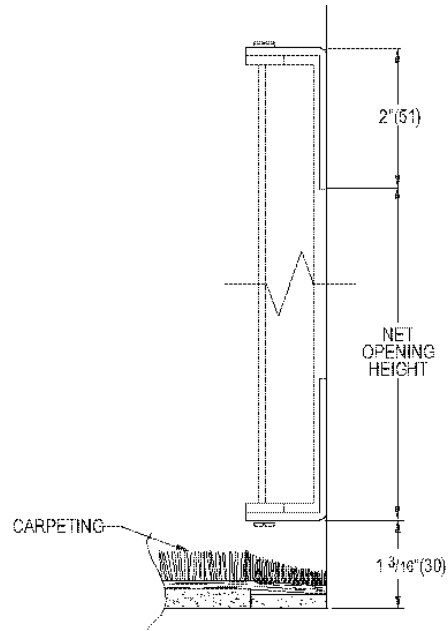

FIGURE 2
Cut the molding 2 1/16"(52) from door opening on the pivot side of door. Referring to chart to left, measure proper distance from cut molding edge to other side of opening and trim molding (Note Figure 2). (See Specifications chart.)